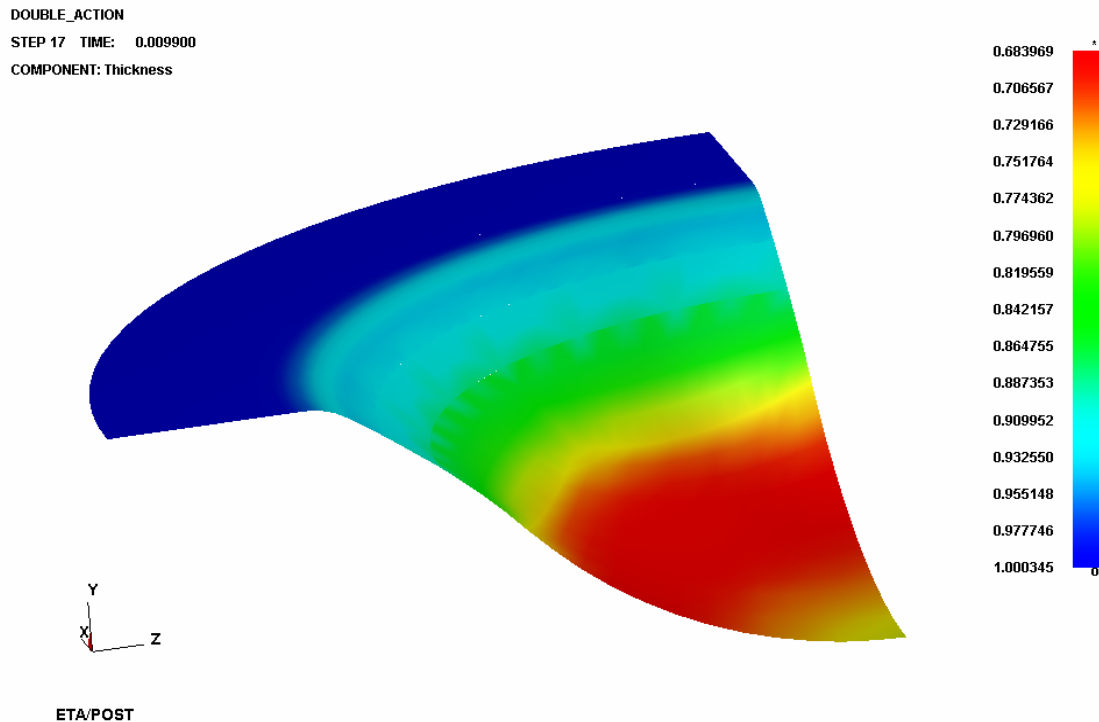

Figure 2.50 Thickness/Thinning contour
2. Select **Current Component** from combo box, either THICKNESS or THINNING. The thickness contour of deformed dome is illustrated in Figure 2.50.